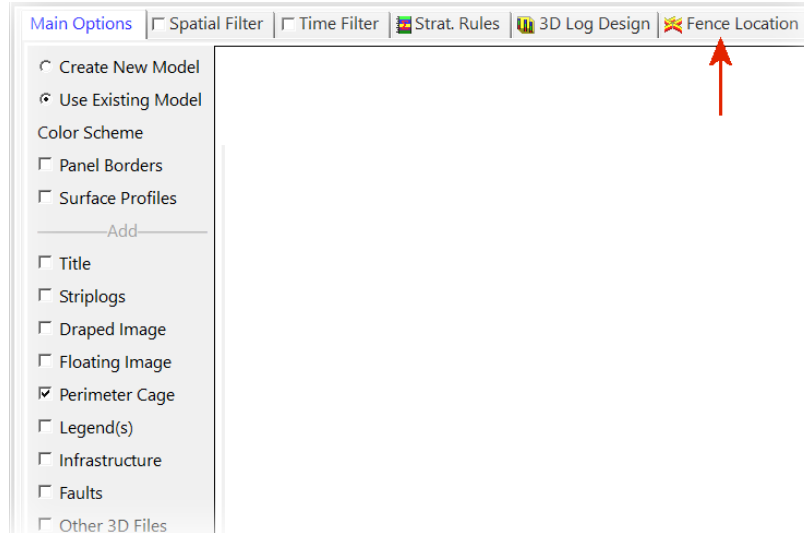

Figure 87
- Disable all of the other *Main Options*, except for the *Perimeter Cage*, and click on the *Fence Location* tab (Figure 87).